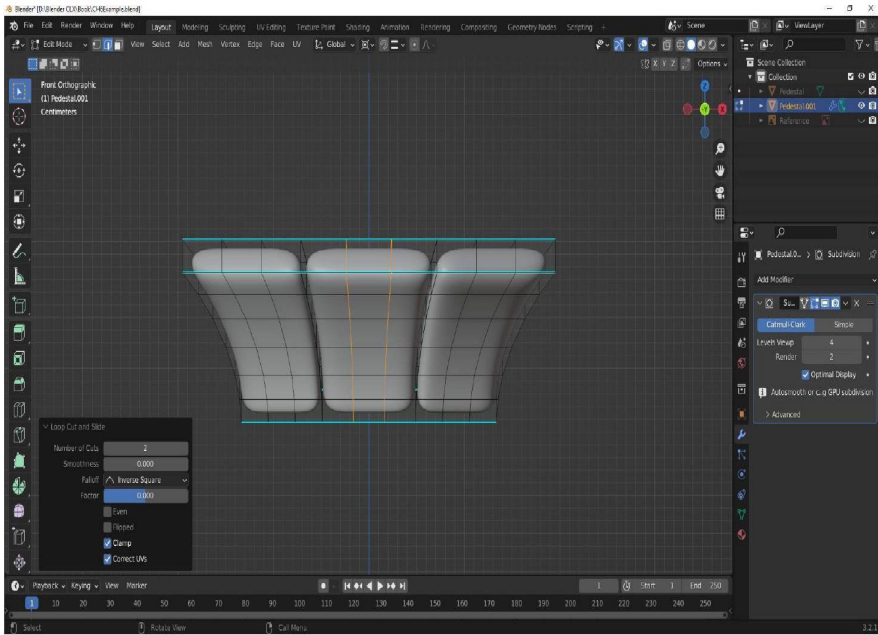

Figure 6.9: Base meshes for three leaf details with edge loops added for even distribution of resolution
12. Let us also add some vertical edge loops, so that the new topology of these bases for our leaf detail will be more evenly distributed, by pressing **Ctrl + R**. Hover the mouse cursor over a horizontal edge and roll the mouse wheel up one notch to add two vertical edge loops to the middle of each of the three shapes as shown in *Figure 6.9*, and left-click, then right-click to confirm: